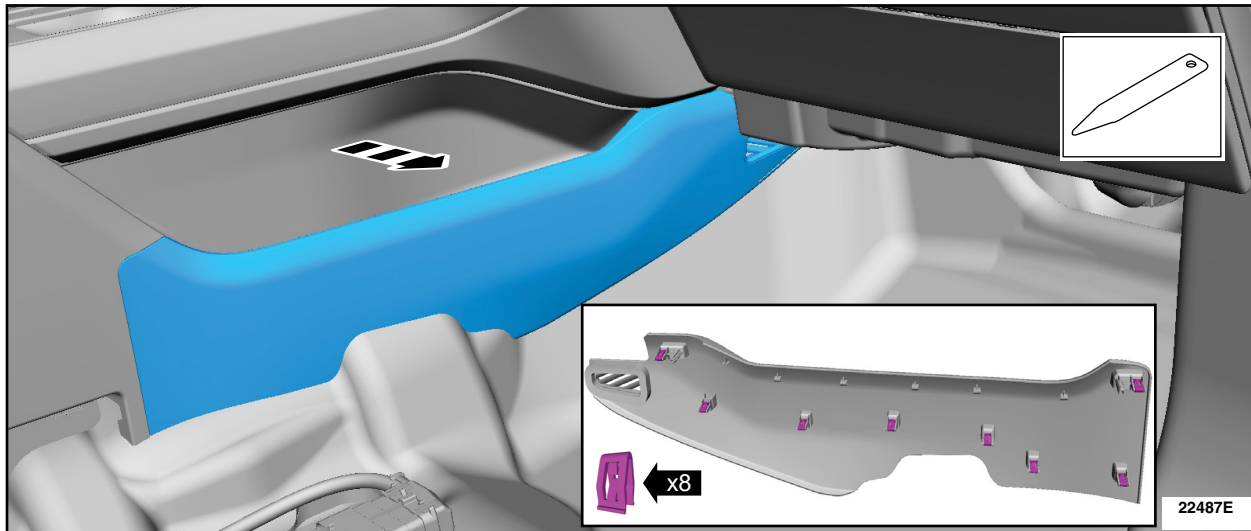

FIGURE 5
7. Release the clips and remove the floor console lower RH trim panel. See Figure 5.